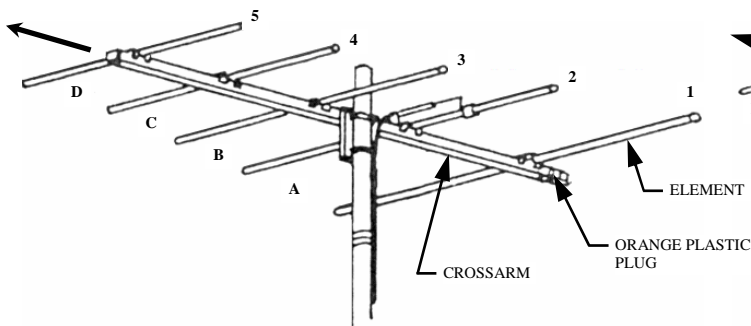

FIGURE 1 TYPICAL MOUNTING OF MODEL J55-*-WC
1. Consult Figure 1 or 2 and Table 1 or 2, then assemble the elements onto the crossarm in their proper positions as denoted by their length. Note that the back of the crossarm is the end with the orange plastic plug. DO NOT overtighten the hex-bolts securing the elements.